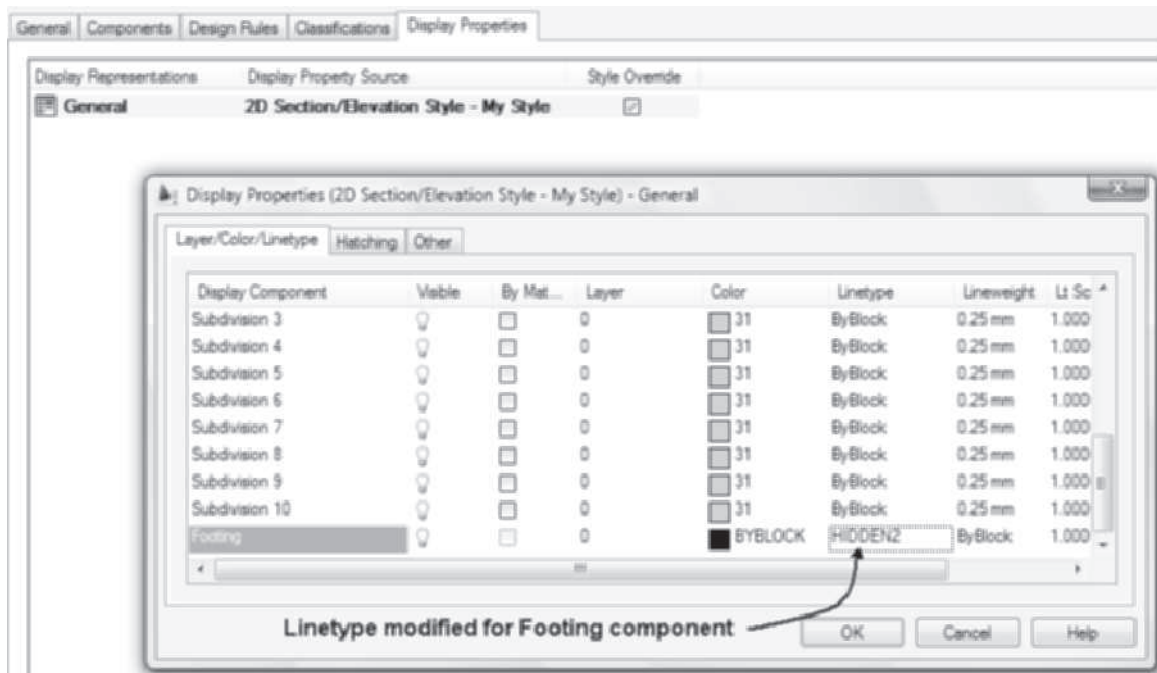

FIGURE 12.21 Display Properties tab of a 2D Section/Elevation Style Properties dialog box
The Display Properties tab is shown in Figure 12.21. It lists the display representations available for the section or elevation object.
5. Select the **Display Properties** tab as shown in Figure 12.21, verify that **Style Override** is checked, and click the **Edit Display Properties** button to open the **Display Properties (2D Section/Elevation Style Override—MyStyle)** dialog box. Select the **Layer/Color/Linetype** tab and edit the properties such as color or linetype of the Footing display component created in step 2. Click **OK** to dismiss the **Display Properties (2D Section/Elevation Style Override—MyStyle)** dialog box. Click **OK** to dismiss the **2D Section/Elevation Style Properties—MyStyle** dialog box.